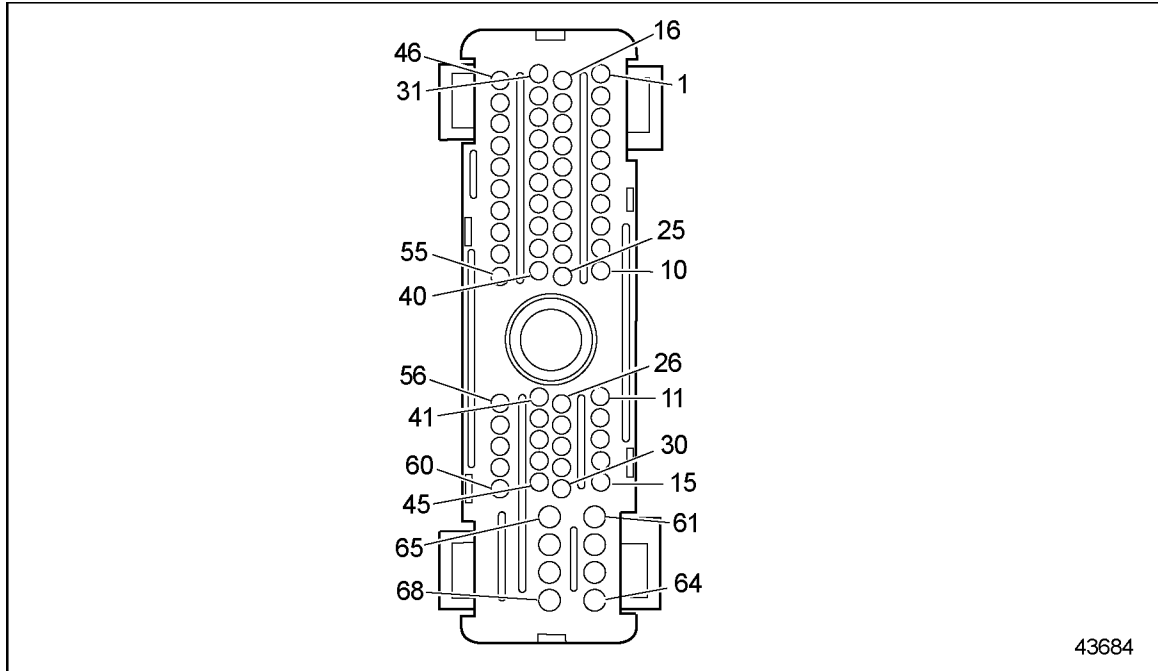

Figure 61-2 ECM/ECU VIH Connector
3. Measure resistance between sockets V-22 and V-11 on the engine harness connector. See Figure 61-2.
2. Disconnect the vehicle harness at the ECM/ECU. See Figure 61-2.